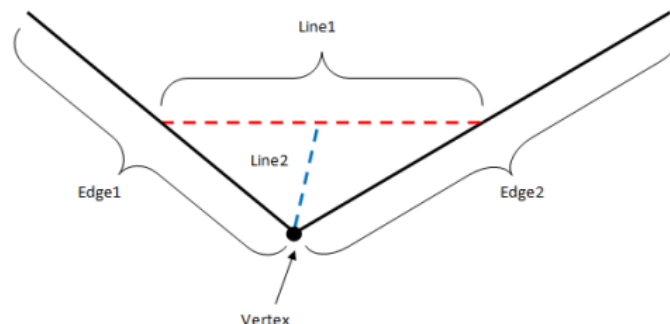

Fig. 4: Method of smoothing
Additionally, smoothing can also be explicitly used to further simplify the aperture shape. As shown in figure 4 below, a line segment (Line1) is created using the center points of the two edges that touch the vertex. A second line segment (Line2) is created going from the vertex to the center point of Line1. The vertex will be shifted along Line2 according to the *smoothSize* parameter of the *compute_smoothed_aperture* function. The value of *smoothSize* should be set between 0.0 and 1.0, indicating how far along Line2 the vertex will shift (0.5 will shift it to the center of Line2, and 1.0 will shift
2. figure 4: shows an example diagram of the smoothing algorithm.